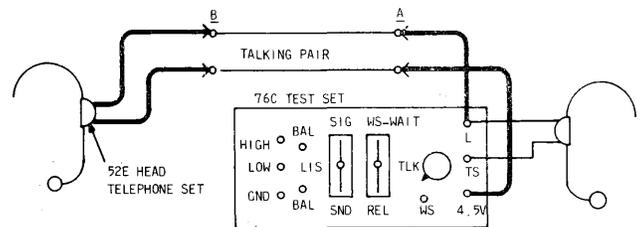

Fig. 1—Establishing Talk Circuit
2.03 To use the relay circuit for identifying individual wires, the talking circuit must be set up as shown in Fig. 1.